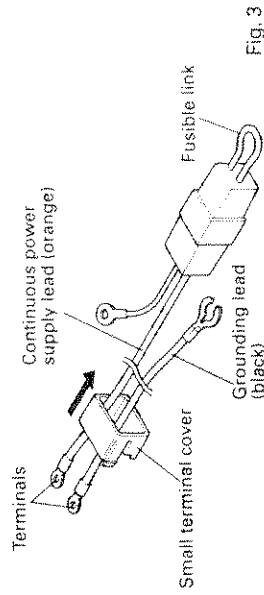

Fig. 3
1. Pass the continuous power supply lead (orange) and the grounding lead (black) through the small terminal cover. (Fig. 3)